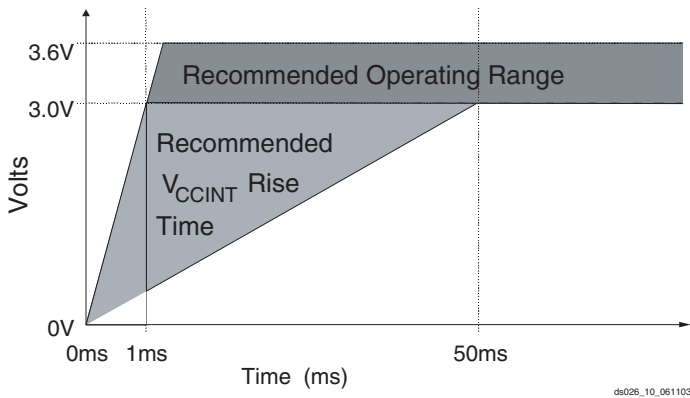

Figure 8: VCCINT Power-Up Requirements
On power up, OE/RESET is held low until the XC18V00 is active (1 ms). OE/RESET is connected to an external resistor to pull OE/RESET HIGH releasing the FPGA INIT and allowing configuration to begin. If the power drops below 2.0V, the PROM resets. OE/RESET polarity is *not* programmable. See Figure 8 for power-up requirements.
- At power up, the device requires the V_{CCINT} power supply to monotonically rise from 0V to nominal voltage within the specified V_{CCINT} rise time. If the power supply cannot meet this requirement, then the device might not perform power-on-reset properly. See Figure 8.